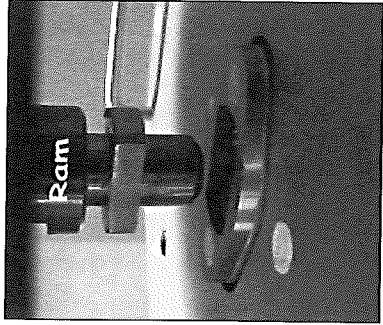

Figure 11
10. Raise handle slowly. Watch ram (Fig. 11) making sure it causes no interference with head. Continue to raise handle to uppermost position. Head assembly should be resting on the pallet.
2. Release the trip lever, and slowly lower the handle. Watch the lower end of the ram (Fig. 11) insertion into the head. Align the head as necessary to complete insertion.